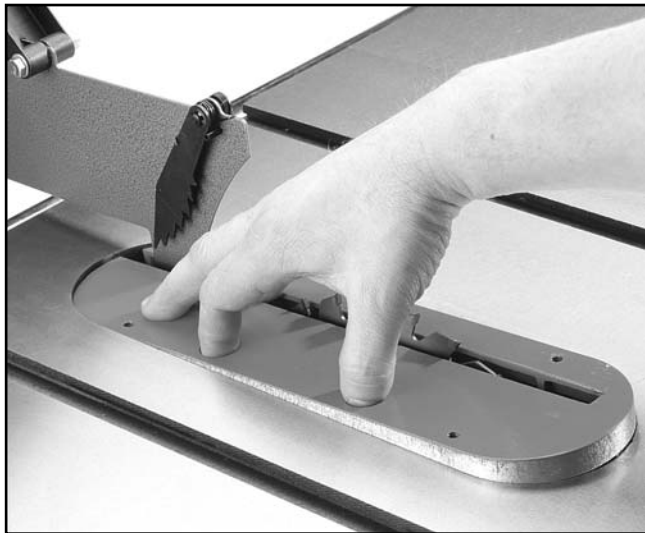

Figure 14.
1. Install the table insert by putting your fingers into the finger holes of the insert and lifting the front to install it as shown in **Figure 14**. There is a small pin at the back of the insert which fits into a hole in the back edge of the blade cavity. **Note:** The blade will not be exactly centered in the insert slot. This is normal. This positioning allows the blade to tilt a full 45° without hitting the insert.